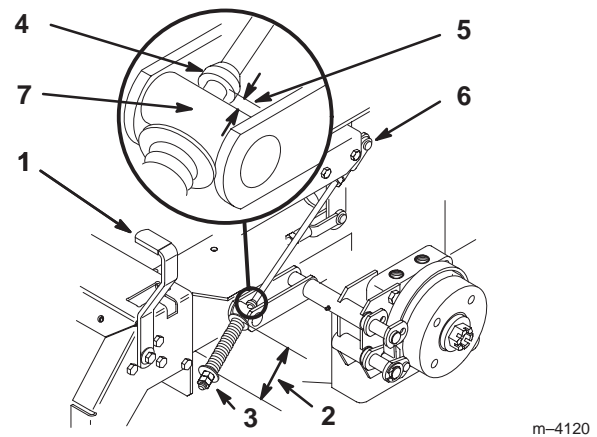

Figure 60
2. Measure the length of the spring. The measurement should be 2-3/4 in. (70 mm) between the washers (Fig. 60).
3. If an adjustment is necessary, loosen the jam nut below the spring and tighten the nut directly below the yoke (Fig. 60). Turn the nut until the correct measurement is obtained. Tighten the two nuts together and repeat on the opposite side of the unit.
6. Measure the distance between the trunnion roller and the collar on brake rod. The measurement should be 3/16–1/4 in. (5–7 mm) (Fig. 60).
7. If an adjustment is necessary, loosen the jam nut directly below the yoke. Turn the bottom adjusting nuts until the correct measurement is obtained (Fig. 60). Tighten the jam nut at the yoke.